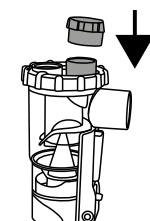

Figure 14
- In order to increase breathing resistance, you can place the PEP cap included in the delivery on to the expiration valve on the top section of the nebuliser (Figure 14).